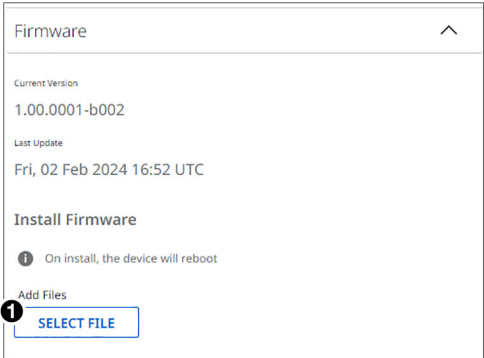

Figure 35. SELECT FILE Button on the Firmware Panel
1. In the Firmware panel, click the **Select File** button (see figure 35, ❶).